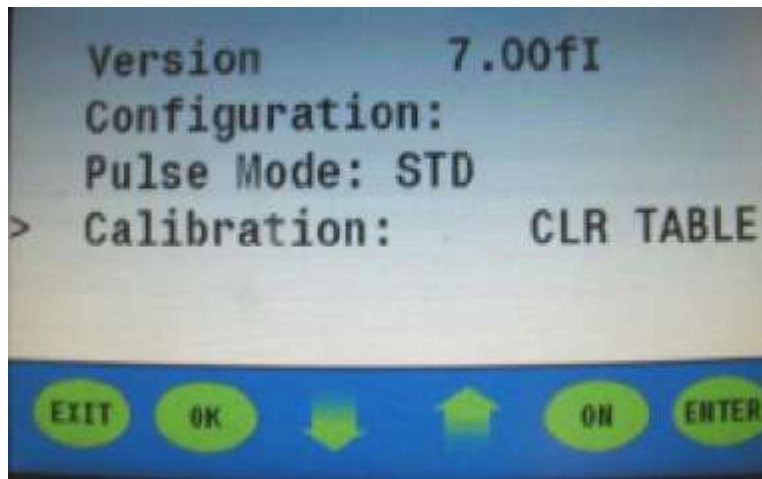

Figure 6
5. Press the **enter button** (figure 6).